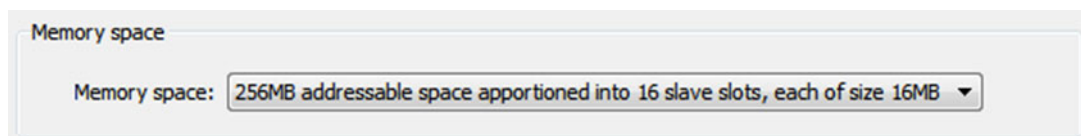

Figure 5-3 • Master/AHBLite Memory Space Configuration - 16 MB per slot
- If you need less than 16 MB of address space of all your peripherals, select the option as shown in Figure 5-3. This mode provides 16 16MB slots that can be used to connect up to 16 AHBLite slaves.